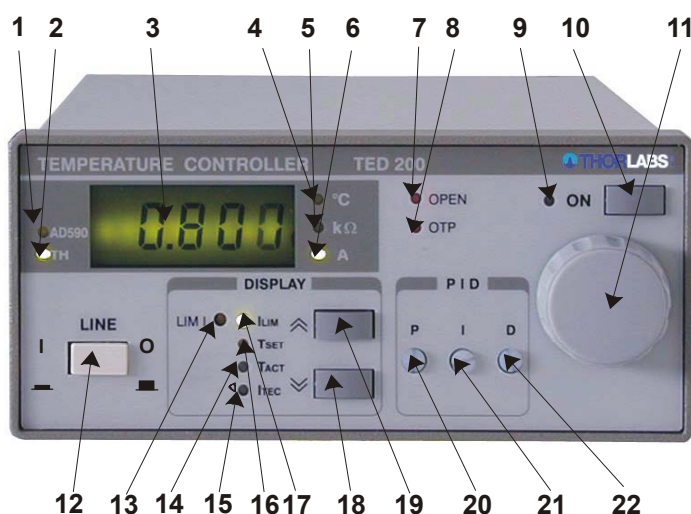

Figure 1 Operating elements on front panel
The unit is easy to use due to the clearly arranged operating elements on the front panel. The operating parameters are shown by an illuminated 4¹/₂-digit LCD display, the measurement value shown is selected via keys (see Figure 1 Operating elements on front panel).
By pressing the key "ON" switch on the TED 200 output current. The LED "ON" (9, see Figure 1) lights up.
Select with the key (18, Figure 1) or (19) the display value "TSET" to show the set value and set the evaluated resistance value with the tuning knob (11).